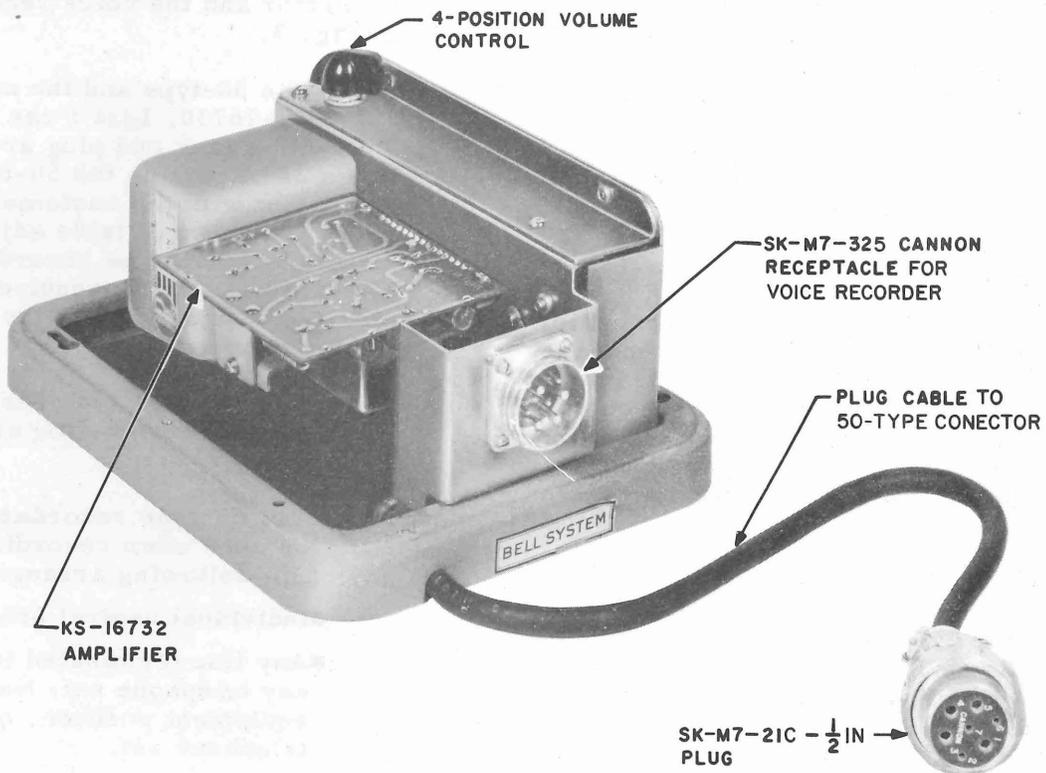

Fig. 2 - KS-16730, List 1 Recorder Connector
- 2.02 The KS-16730, List 1 (Fig. 2) recorder connector is an auxiliary unit for use with the 50-type connector. The KS-16730, List 1 unit reduces the level of the warning tone to the voice recorder but not to the calling party. It also equalizes the local and distant voice